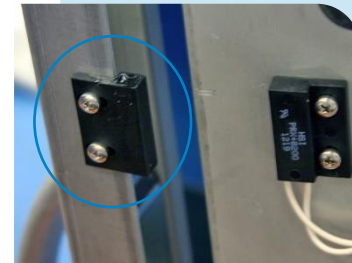

Figure 5. Install Magnetic Actuator
6. Attach the Magnetic Actuator to the Front Door using the two M3 x 6-mm screws (Figure 5).